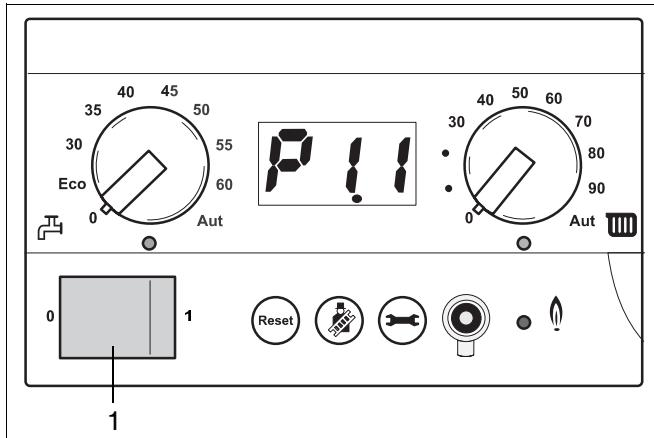
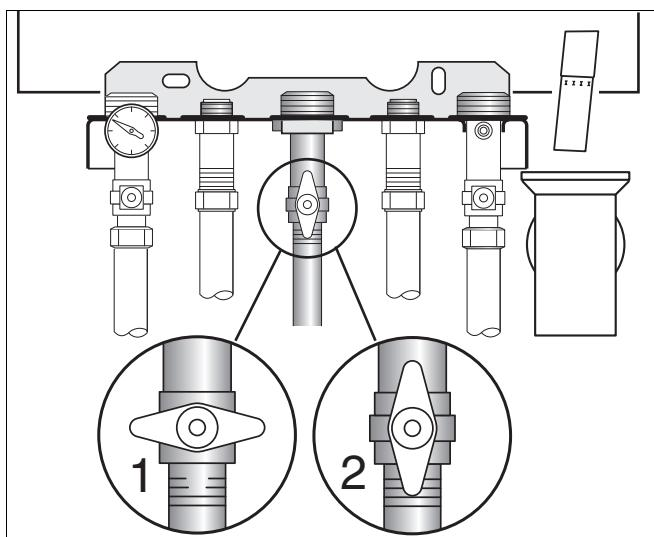

Fig. 7 BC10; Mains power switch
Fig. 8 Gas service valve
- Push the mains power switch (fig. 7, item 1) to “0”.
- Close the gas service valve by turning it clockwise (fig. 8, item 1).
- Turn the mains switch to “I” (fig. 7, item 1) and leave the gas service valve open (fig. 8, item 2).